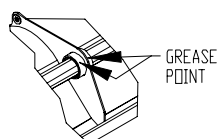

Figure 5
1. PTO overrunning clutch (1), located near U-joint yoke (section 4, pages 4-54 thru 4-57).
2. Pull-type rear wheel lift tube (figure 5).